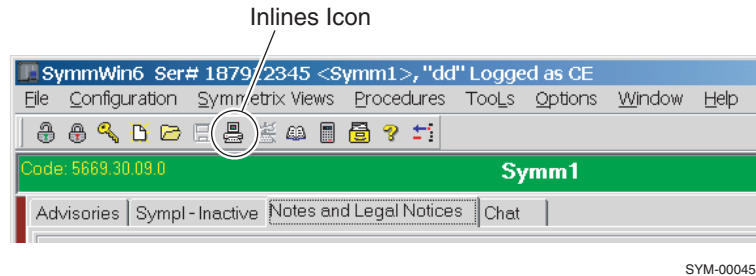

Figure B-2 Inlines Icon
3. From the SymmWin main menu, go to Inlines. (Refer to Figure B-2.)